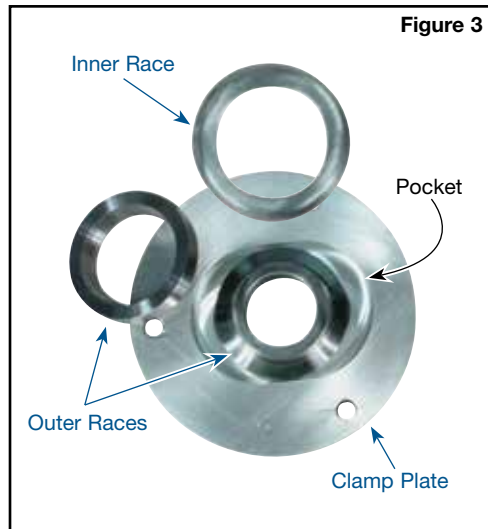

Figure 3
- e. Install two Sonnax outer races and Sonnax inner race into the pocket in Sonnax clamp plate forming a ball and socket (**Figure 3**).